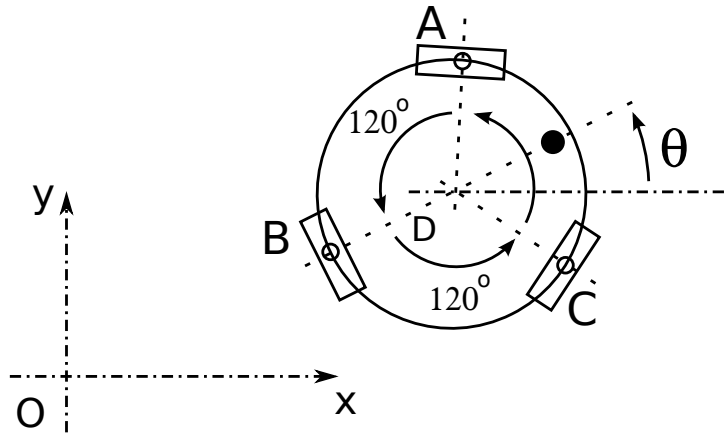

Figure 2: Planar omnidirectional mobile robot with three wheels.
4. Consider the mobile robot with three omni-direction wheels illustrated in Figure 2. The black point marks the “front” of the robot. The three wheels are located symmetrically, 120° from each other and all at a distance D from the center of